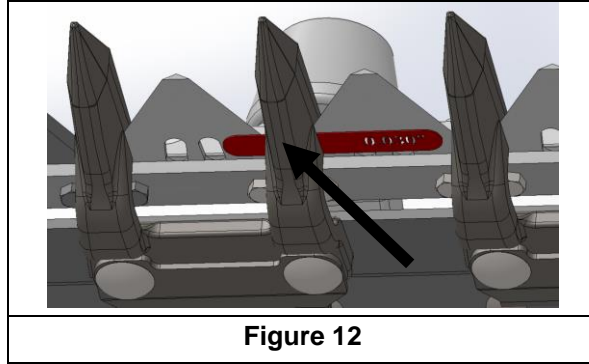

Figure 12
- Start with the LH knife and insert a 0.030" feeler gauge between the center guard (right in front of LH gooseneck) and the bottom of the sickle section. We install this shim in this area to make sure the LH knife does not have too much down pressure onto the guard. Figure 12.